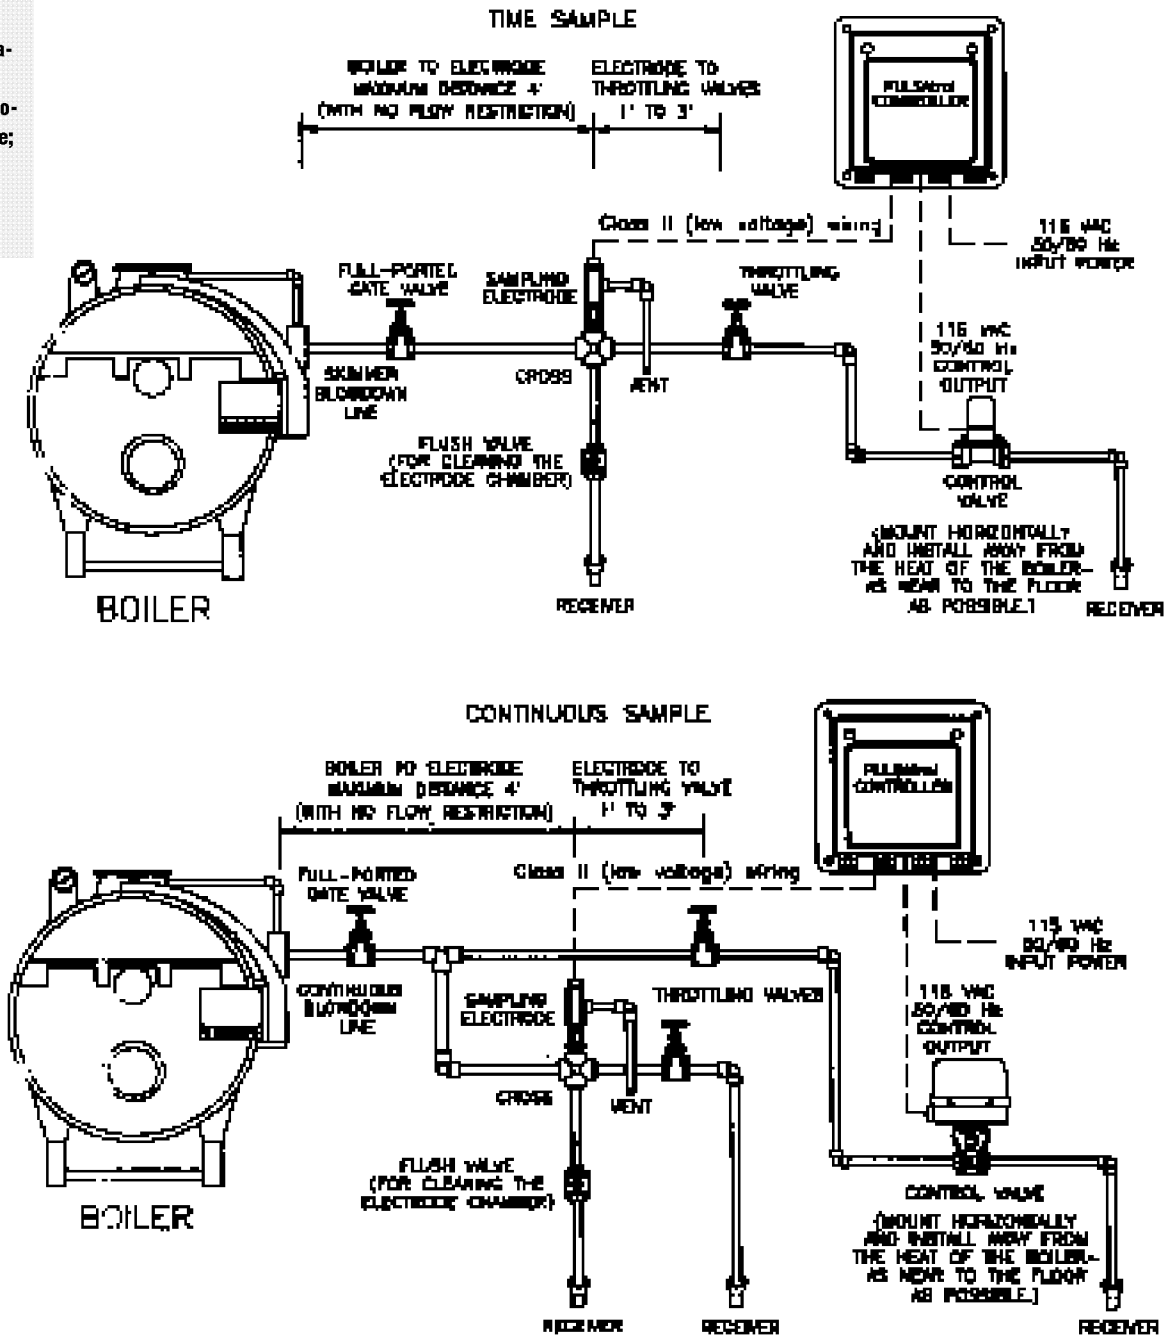

FIGURE 1 Typical Installations
10. When installing sampling assembly and blowdown assembly, distances specified in Figure 1 should be adhered to as closely as possible.
Controller should be per installation diagram (see Figure 1). Make sure all fittings and connections are secure:
2. Close isolation valve located before the electrode (Figure 1).
3. Open the flush valve to drain water from electrode housing; to insure no water or pressure is present in this part of the assembly (Figure 1).
7. External alarm, if controller incorporates alarm relay. Refer to Figure 1, Typical Installation, pg. 5.
7. External alarm, if controller incorporates alarm relay. Refer to Figure 1, Typical Installation.